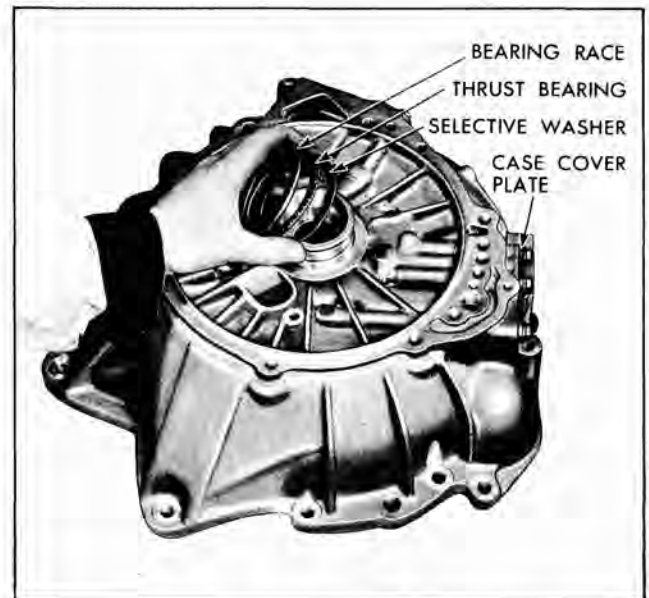

Fig. 68 Case Cover Thrust Bearing and Selective Washer
5. Remove race, thrust bearing and selective washer from case cover (Fig. 68). Race may have been previously removed. **NOTE:** Every second roller space of the thrust bearing is empty.